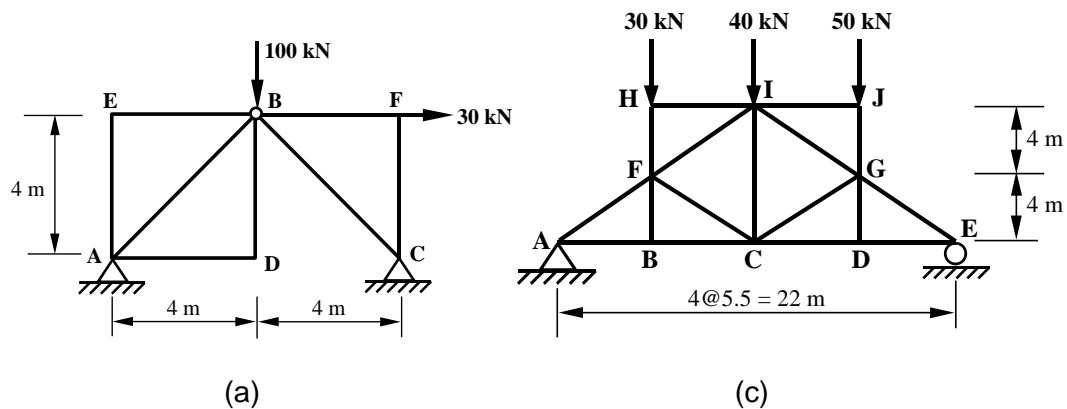

Fig. 8
Q.8 For each of the statically determinate trusses detailed in Fig. 8, perform a complete analysis of the member forces. Tabulate your results.